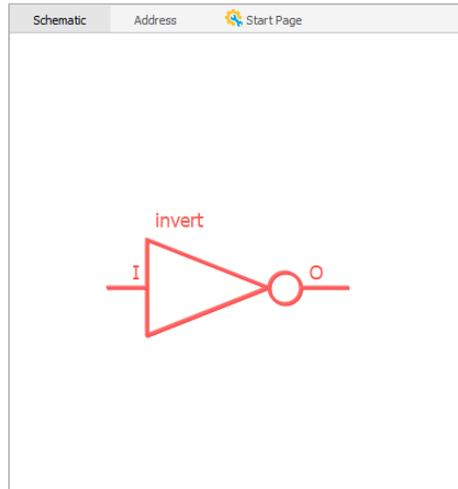

Figure 2.52. Schematic View Shows the Invert Module
1. From the IP Catalog, select the **invert** module. Double-click the invert module or drag and drop invert module to the Schematic view. The schematic block for the invert module in red appears in the Schematic view (Figure 2.52).